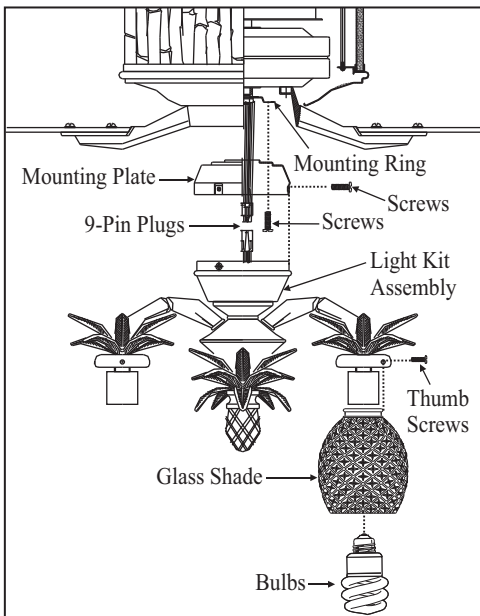

Figure 15
2. Place the key holes on the mounting plate over the 2 screws previously loosened from the mounting ring, turn the mounting plate until it locks in place at the narrow section of the key holes. Secure by tightening the 2 screws previously loosened and the one previously removed. (Figure 15)